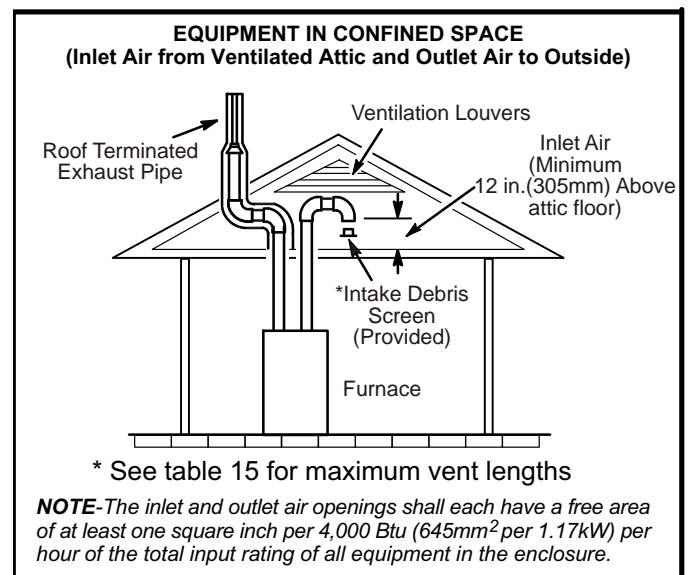
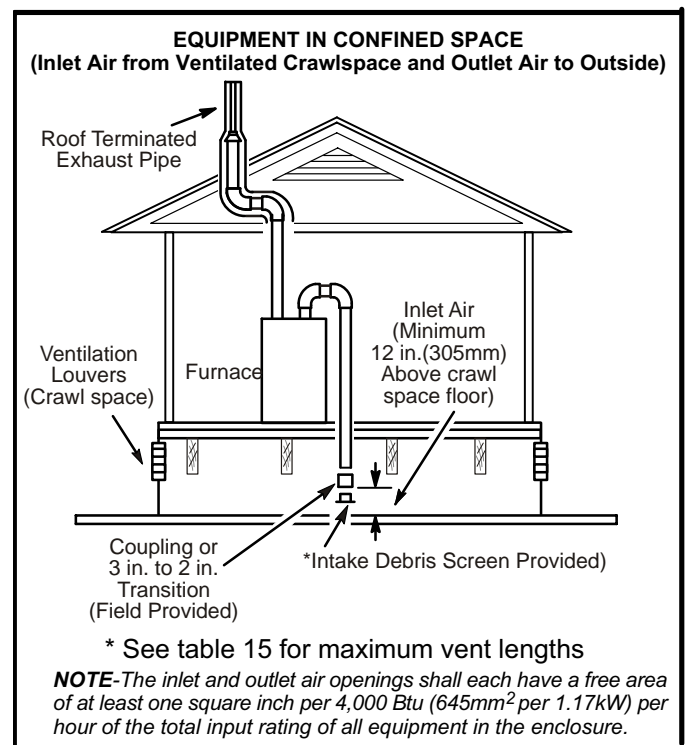

FIGURE 24
FIGURE 25
- 2 - If intake air is drawn from a ventilated attic (figure 24) or ventilated crawlspace (figure 25) the exhaust vent length must not exceed those listed in table 15. If 3" diameter pipe is used, reduce to 2" diameter pipe at the termination point to accommodate the debris screen.